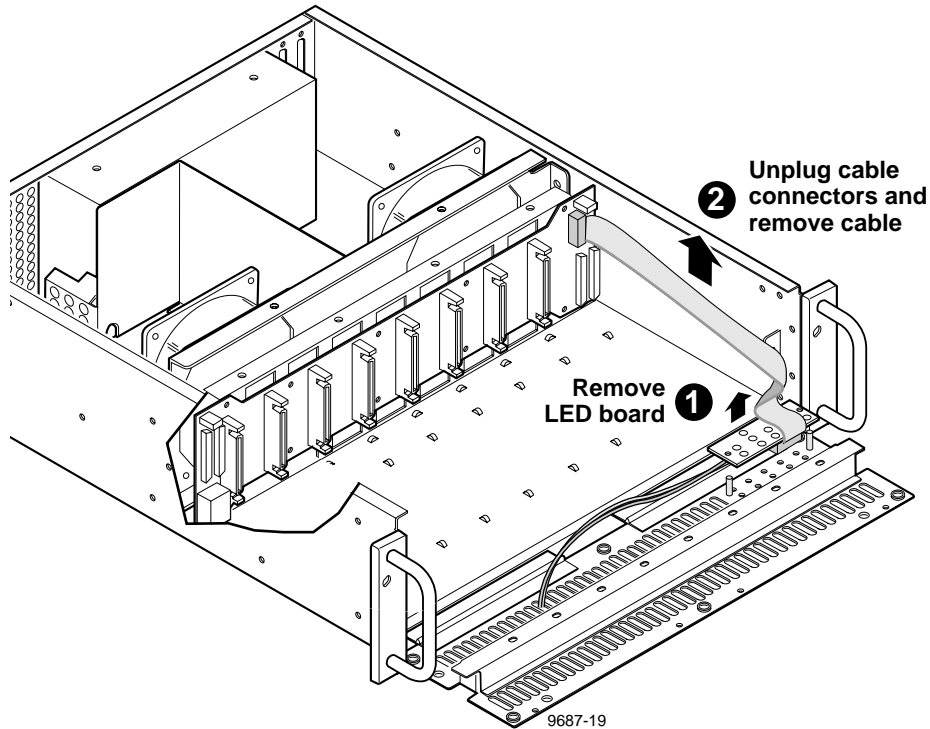

Figure 3-7. Disk Drive LEDs Cable Removal
This cable (item 10 in Table 3-1), for the disk drive activity LEDs, connects from the LED board on the front panel to the SCSI Distribution board. It is not necessary to remove the PDX218 from the rack to perform this procedure. Figure 3-7 shows the LED board and cables.
5. Disconnect the Disk Drive LEDs cable from the LED board (Figure 3-7).
6. Remove as many caddies as necessary to reach the Disk Drive LEDs cable where it connects to the SCSI Distribution board (Figure 3-7). (See *Removing a Disk Drive*.)
1. Connect the new Disk Drive LEDs cable from the LED board to the SCSI Distribution board (Figure 3-7).